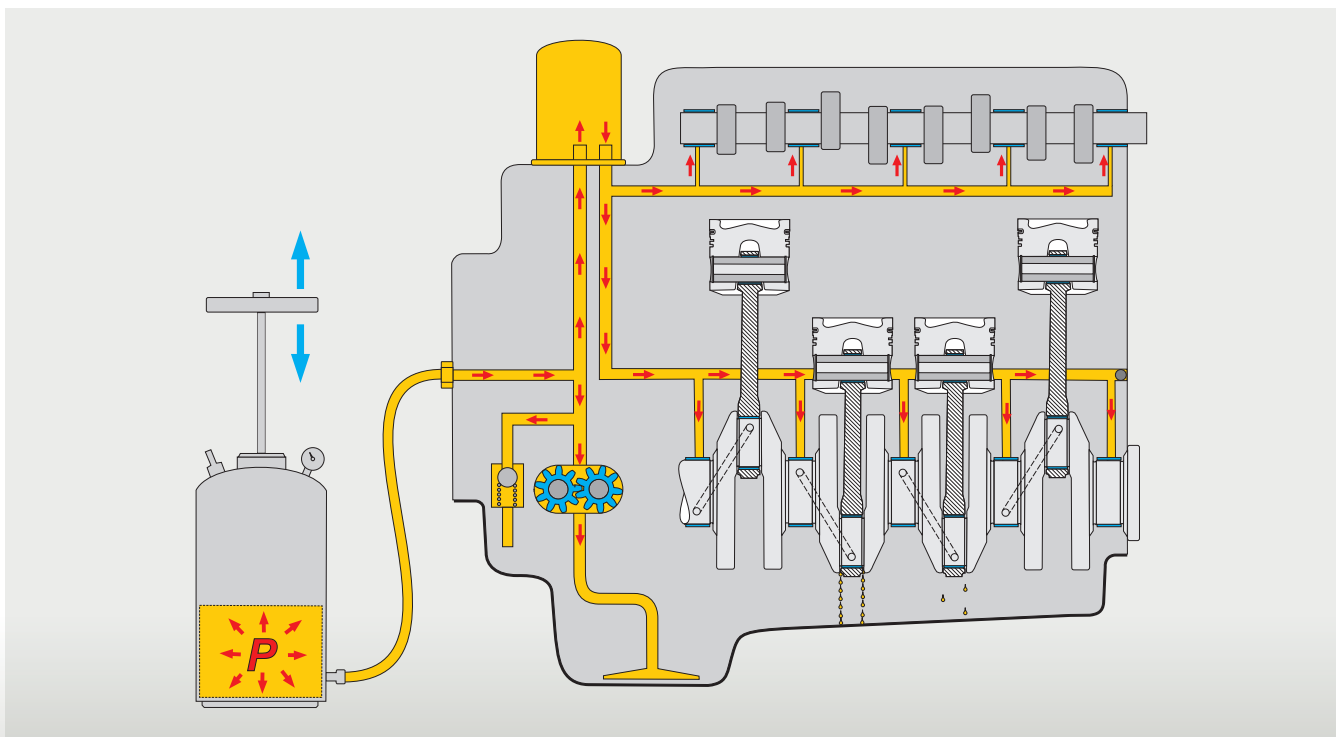

Fig. 1: Schematic representation of the oil circuit
1. Using a pressure tank, the oil for the engine is pumped into the engine via a screw connection on the oil pressure system (Fig. 1 and 2). Suitable connection points are the oil channel sealing plugs specified by the engine manufacturer, or the connecting point of the oil pressure switch OPS.